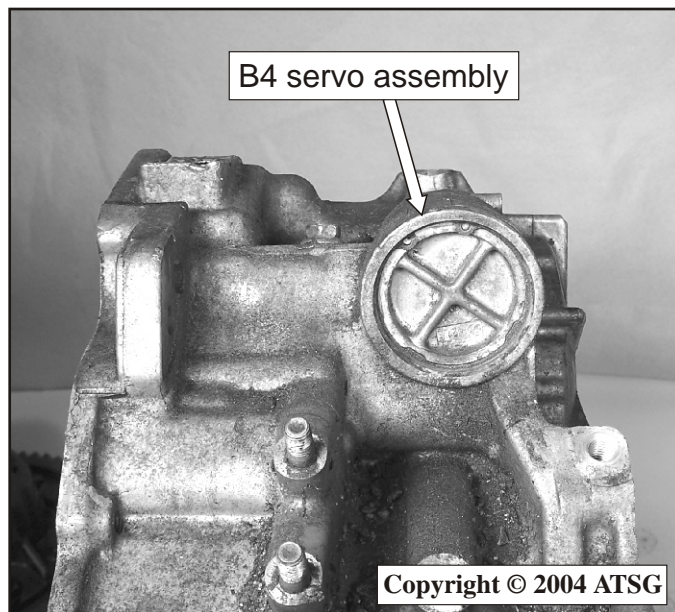

Figure 255
- 183. Lubricate and install the servo piston, cap and retaining snap ring. See Figure 255.